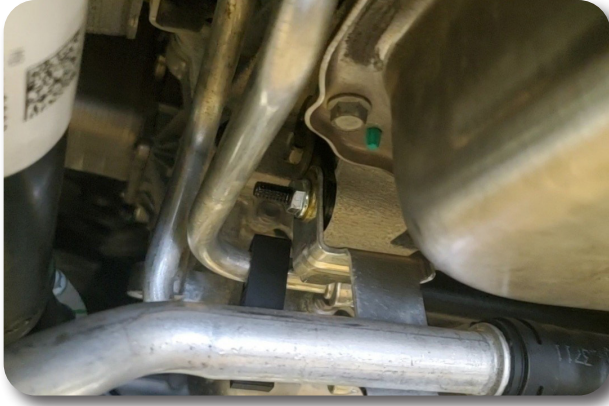

Figure 32B
45. **DIESEL MODELS ONLY:** Install fuel line drop bracket as shown in Fig. 32B & 32C, Attach using factory hardware on top mount and provided 1/4" hardware on stud side of bracket. Install the OE lower control arms in the new crossmembers with the factory cam bolts. Run the front bolts from front to rear. Run the rear bolts from rear to front. Leave hardware loose.